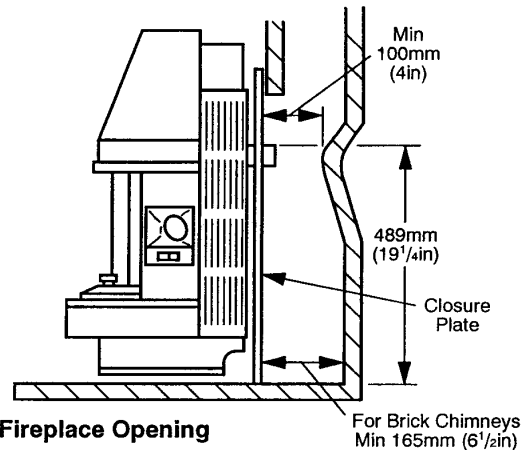

Fig. 3 Fireplace Opening
- (b) **Fireplace opening:** At the height of the flue outlet the fireplace should have a minimum dimension of 100mm (4in) from the front face of the opening to the fireplace back brick (Fig. 3). There must be a minimum height of 250mm (10in) from the bottom of the catchment space to the base of the flue spigot.